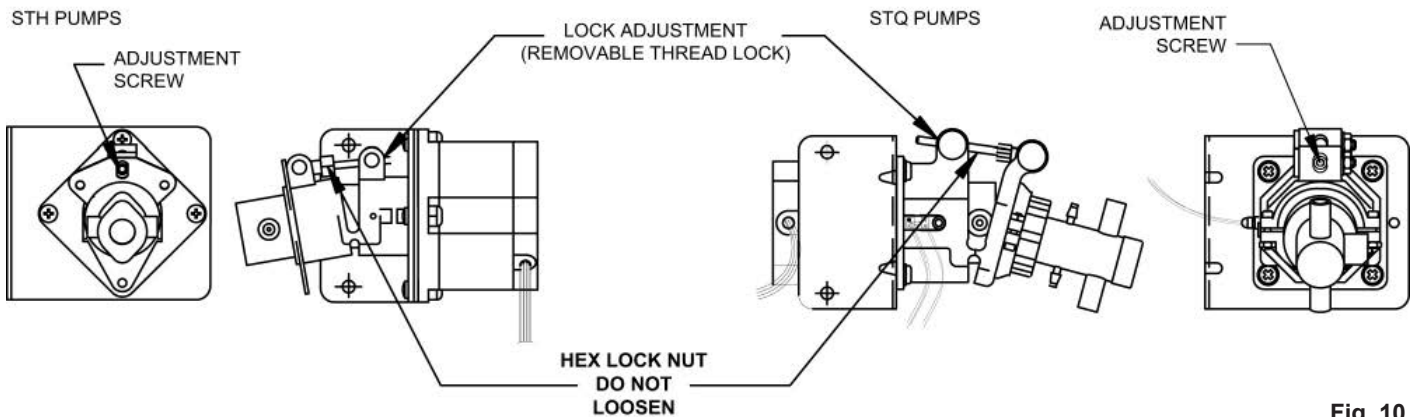

Fig. 10
CAUTION! DO NOT LOOSEN THE HEX LOCK NUT. IT IS SET AT THE FACTORY AND SHOULD NOT BE TAMPERED WITH (see Fig. 10).
3.5 FACTORY LOCK SETTING. Once the pump is factory calibrated, we apply a drop of removable wicking thread lock between the lower pivot pin and the adjustment screw threads (see Fig. 10).